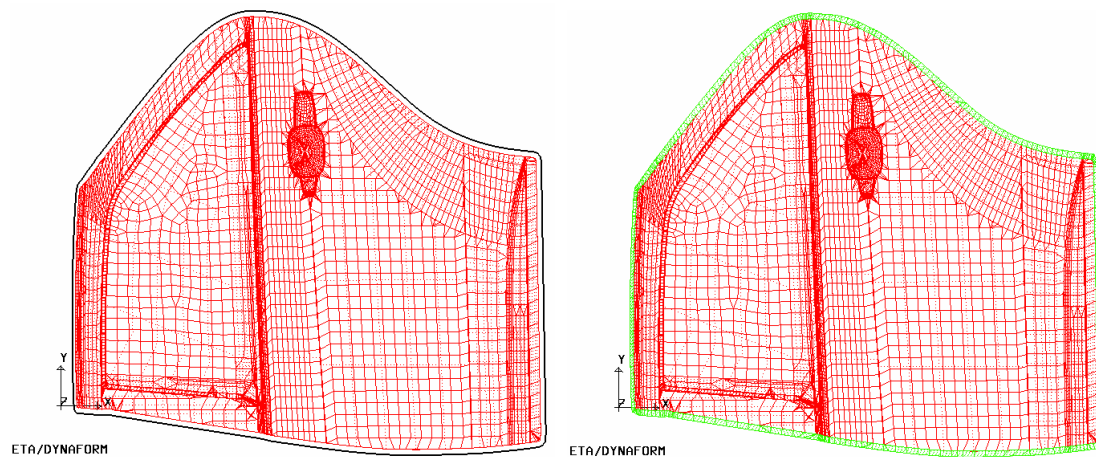

Figure 6.1.47 An Example of Boundary Expand
1. Click the **BOUNDARY EXPAND** button, and the extension boundary is highlighted as shown in the left picture of Figure 6.1.47. The default extension value is calculated from the average element size. The user can enter another extension value and click **BOUNDARY EXPAND** again.